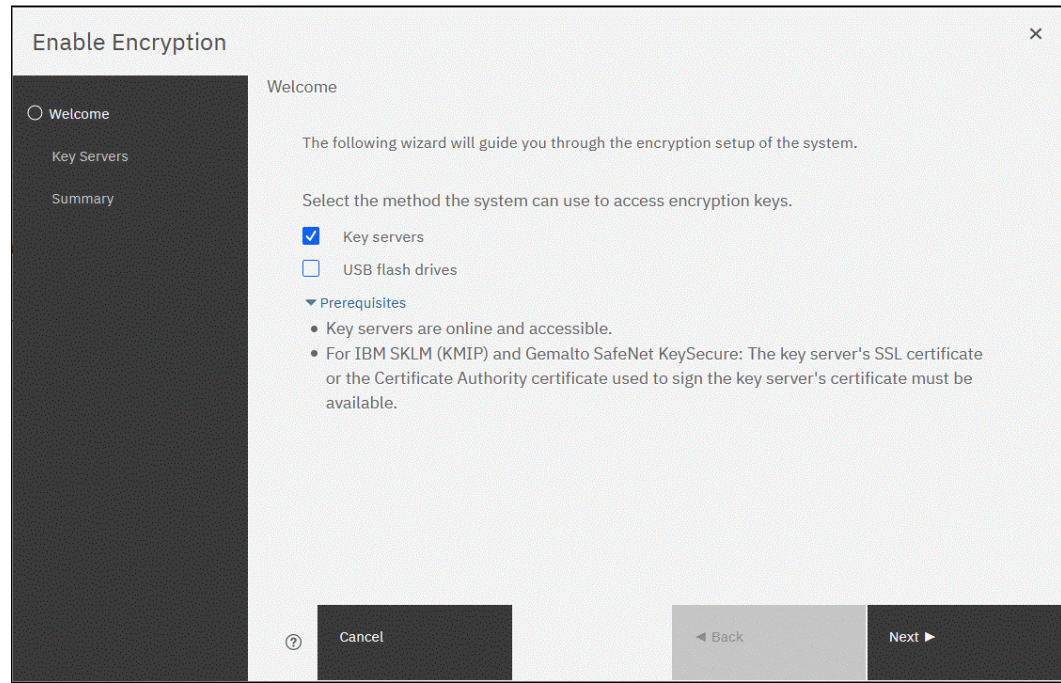

Figure 12-28 Selecting Key server as the only provider in the Enable Encryption wizard
2. In the Enable Encryption wizard Welcome tab, select **Key servers** and click **Next**, as shown in Figure 12-28.